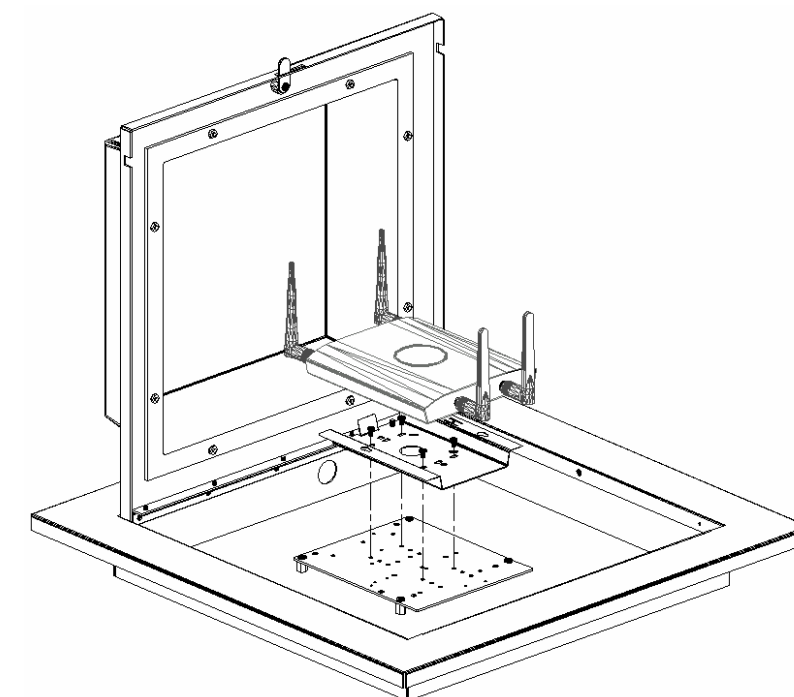

Figure 3 – Install Access Point in enclosure.
Step 3 – Use the *mounting hole legend* to determine the mounting requirements for the type of *access point* chosen. Securely fasten the *access point* to the mounting plate in the location defined by the *mounting hole legend* (Ref. *Figure 3*).